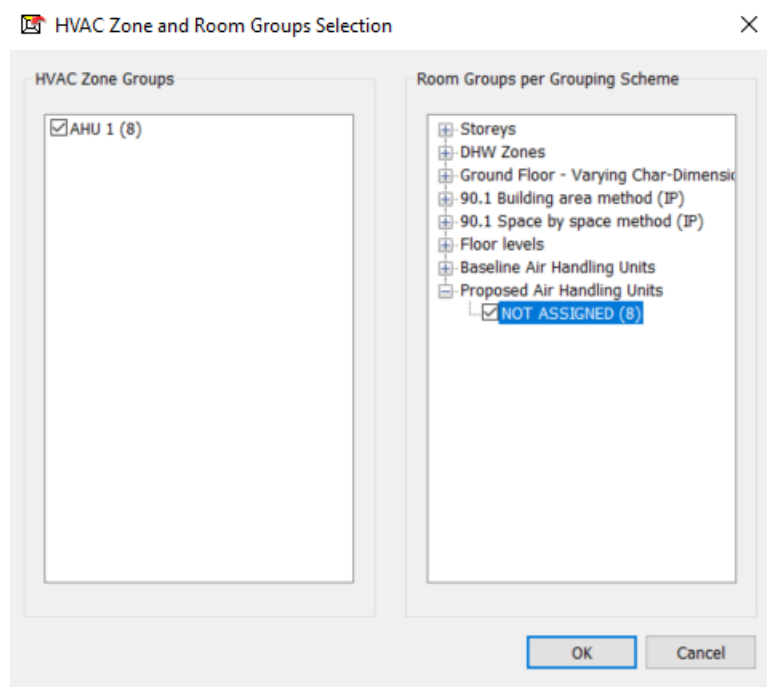

Figure 8: HVAC System Design Wizard (HVAC Zone Selection of the Baseline-Airside)
- Assign HVAC zone and Room Groups Selection (Figure 8)